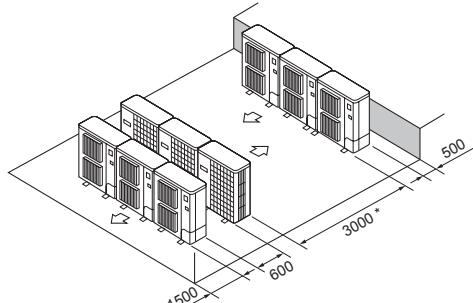

Fig. 2-18
- ⑥ Flere parallele enheder arrangement (Fig. 2-18)